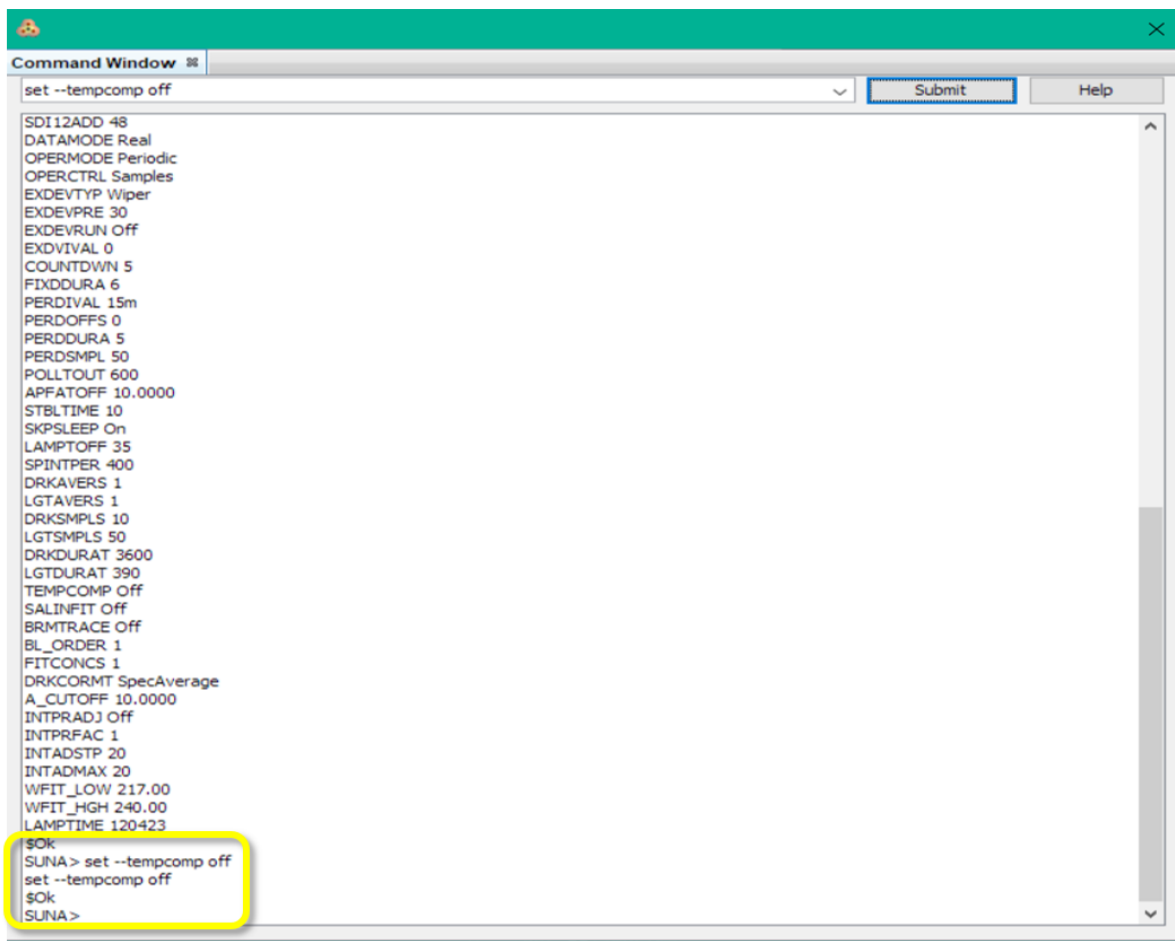

Figure 114. "tempcomp off" Changes Confirmed
13. The changes display at the bottom of the screen as a confirmation (see Figure 114).